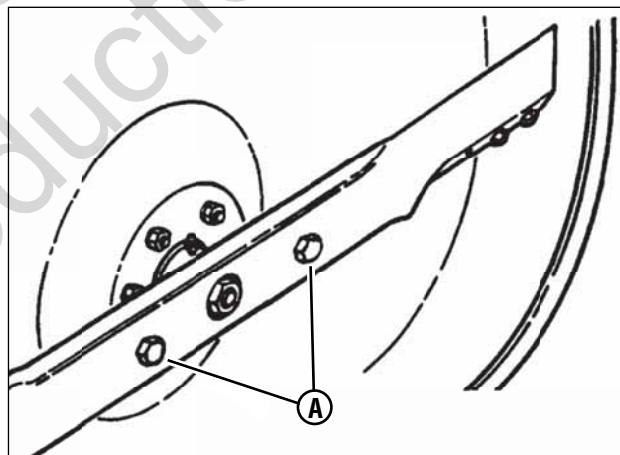

Figure 20: Checking blade bolt torque
3. Check the torque of the blade mounting bolts (**A, Figure 20**). As necessary, torque to 30 to 40 ft. lbs.